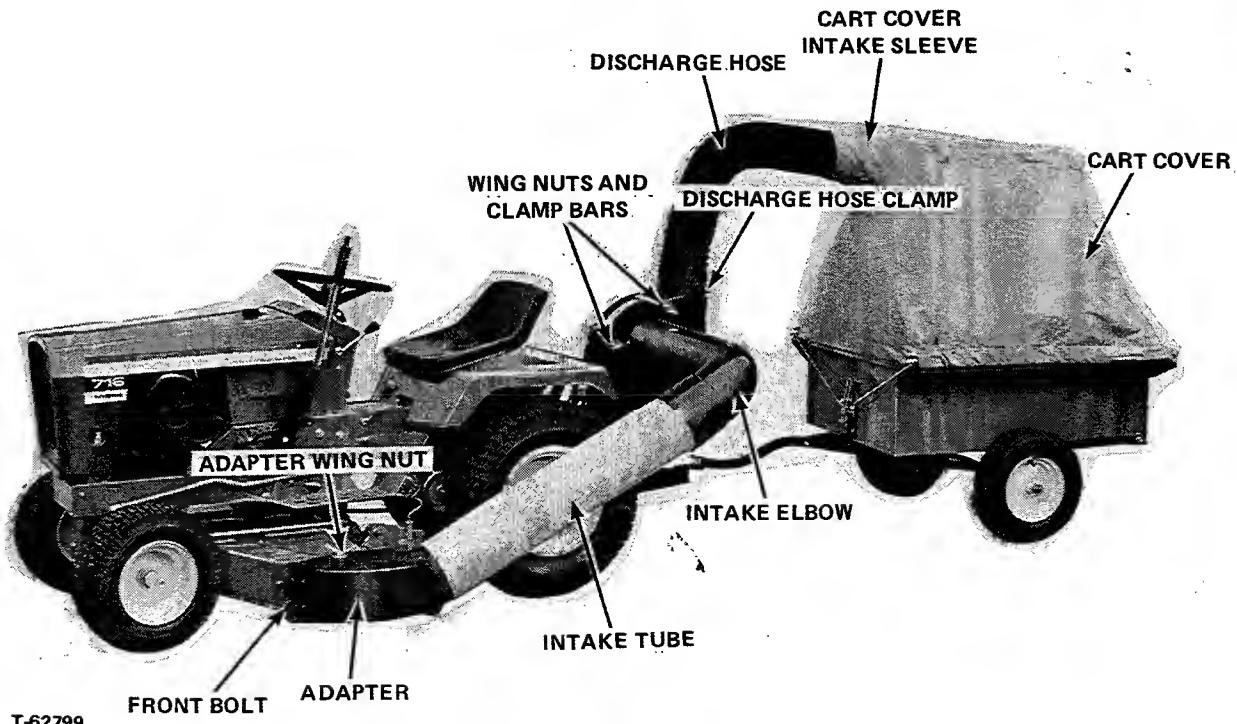

FIGURE 13
7. Slip one end of the intake tube over the rear end of the adaptor on end of mower housing. Slip the other end inside the short end of the intake elbow and at the same time place the intake flange on the other end of the intake elbow flat against the L.H. face of the vacuum collector above the fan intake and slide the flange down into the several retaining clips welded to fan intake sheet. When flange is fully seated under the retaining clips swing the clamp bars under the wing nuts down over the upper part of intake flange and tighten wing nuts. Tighten lock-nuts against wing nuts. (See Figure 13.)
8. Place one end of the discharge hose over discharge deflector and discharge opening of blower and fasten in place with hose clamp (Figure 13).
9. With cart hitched to the drawbar on rear of vacuum collector frame, place rear end of discharge hose inside the cart cover intake sleeve, pull sleeve forward and tighten sleeve strap around discharge hose to hold it in place as shown in Figure 13.
3. Remove adaptor wing nut (Figure 13) and remove adaptor from end of mower housing. DO NOT remove the long bolt in top of housing from which wing nut was removed.